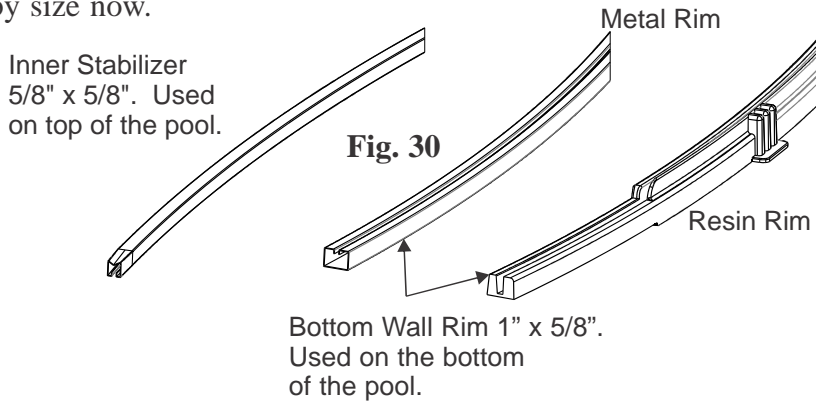
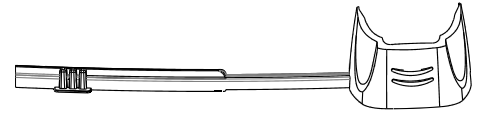

Fig. 31 Metal Bottom Wall Rim
Fig. 32 Resin Bottom Wall Rim
*** IMPORTANT:** Make sure you are using the bottom rails and not the inner stabilizer bars. The bottom rails on some pool models are made of resin and not metal (see Fig. 31 and Fig. 32). The stabilizer bars are always metal and they have male and female end. The bottom rails are the larger width rails that have the straight cuts on both ends. The bottom rails do not interlock (see Fig. 30).